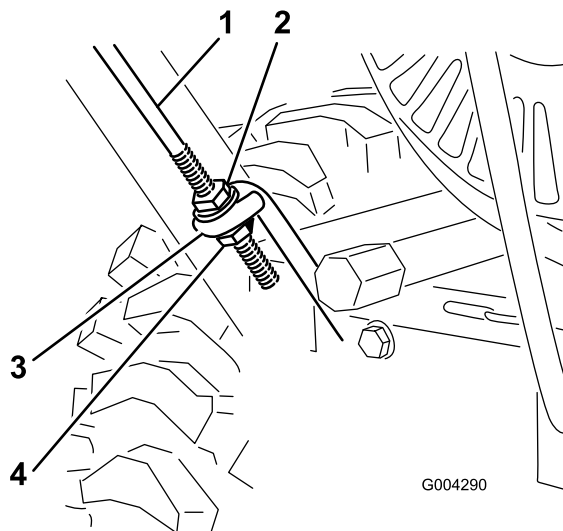

Figure 4
3. Thread a flange nut (not the flange locknut) with the flange down onto the traction rod attached to the left side of the handle (Figure 4).
4. Position the left side of the handle against the side of the snowthrower and insert the end of the traction rod through the lower traction rod loop Figure 4).
1. Thread the flange locknut (flange side up) onto the bottom of the traction control rod, below the loop in the lower traction rod (Figure 4).